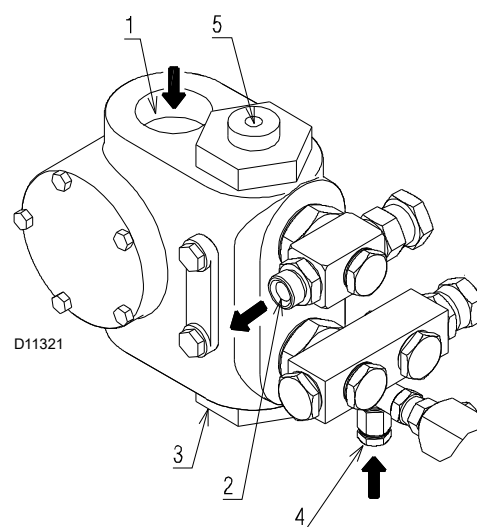

Fig. 21
- In order for self-priming to take place, the screw 4) on the pump (Fig. 21) must be loosened to bleed off the air contained in the suction line.
If the pump has been drained, fill it with fuel through the opening on the vacuumeter 3)(Fig. 21) prior to starting; otherwise, the pump will seize.
Key (Fig. 21)